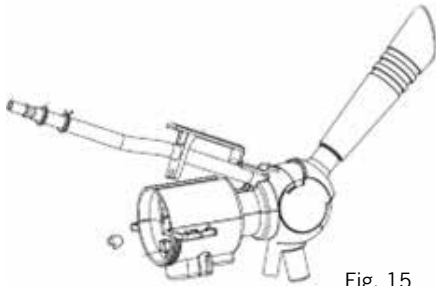

Fig. 15
6. Press the square chrome-coloured button under the hose of the tap assembly inside the appliance. Now you can raise the lid with the beer hose (Fig. 15).